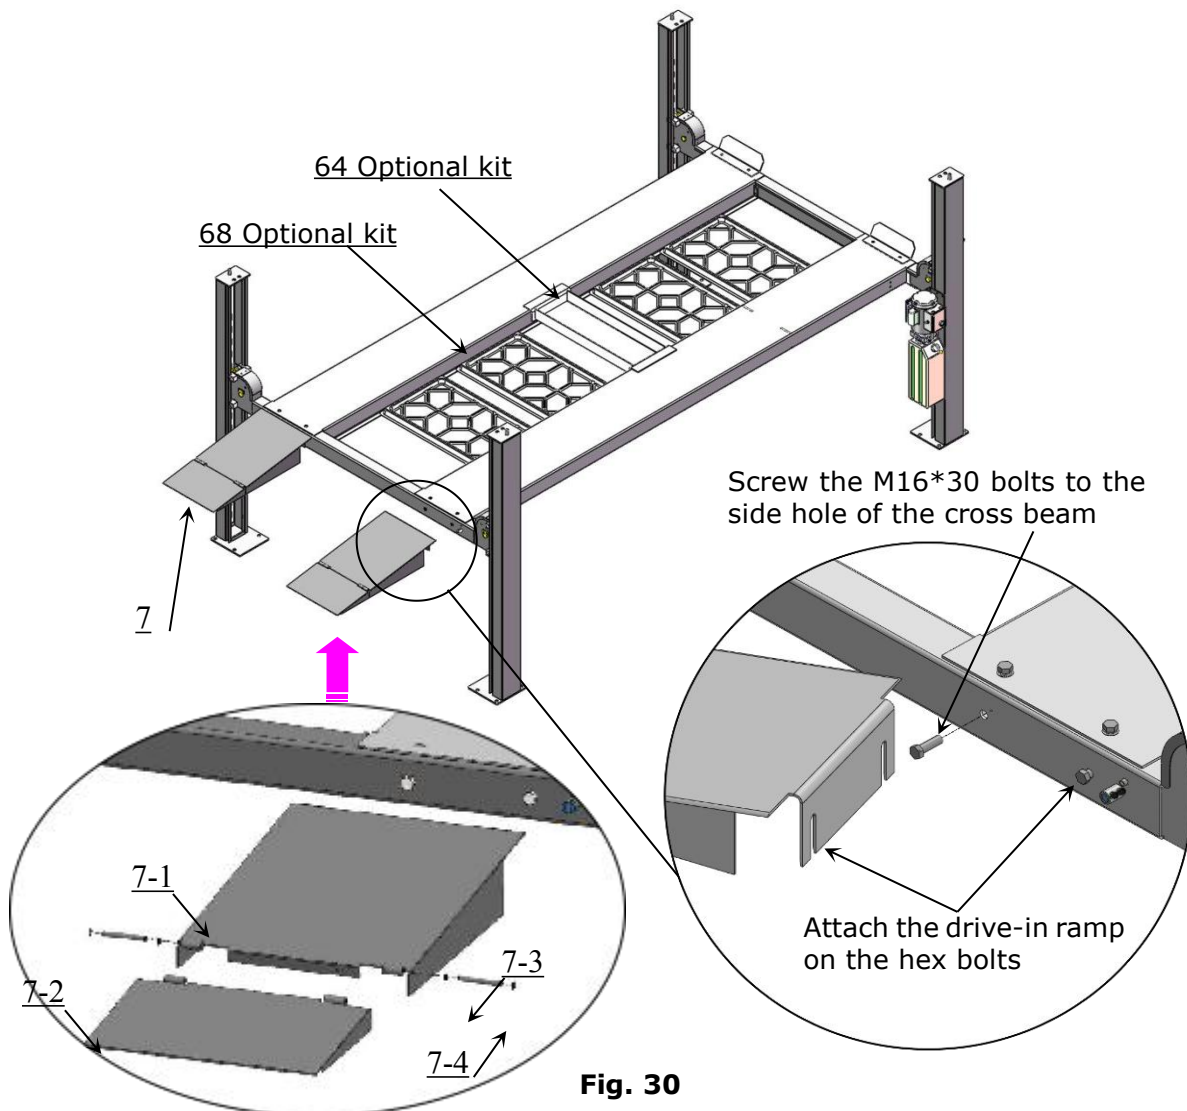

Fig. 30
N. Install drive-in ramp, jack tray and plastic oil pans (See Fig. 30).